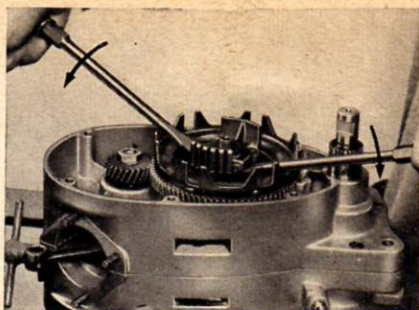

Fig. 28 Releasing clutch centre
6. Withdraw clutch centre, or lever off if necessary with a pair of large screwdrivers (see fig. 28).